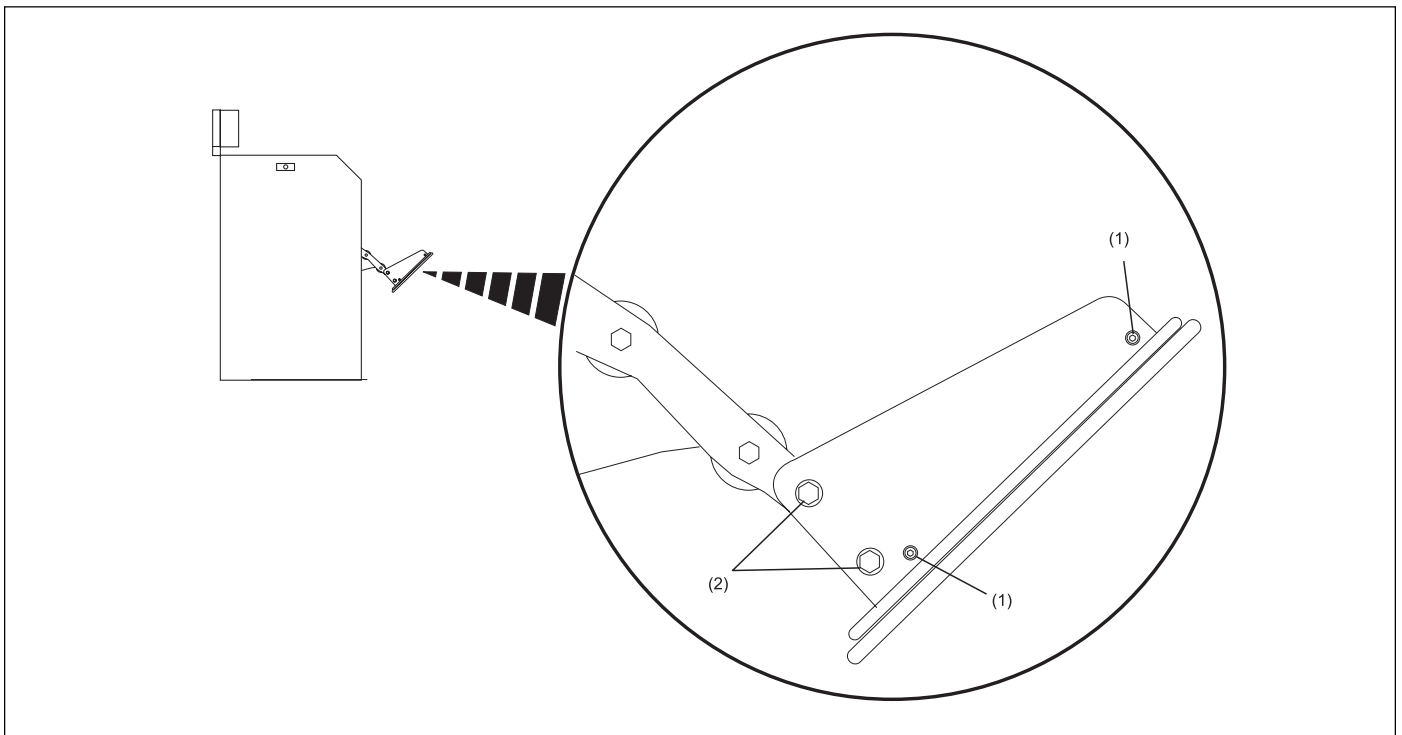

Figure 17. Adjust Ball Door
3. Remove the ball door by unscrewing the four (4) button head Allen screws.
5. To adjust the cradle, use a 7/16 inch wrench to loosen the four (4) bolts that hold the ball track to the cradle assembly and tilt the ball track so it is flush with the front panel. Tighten bolts.
6. Install ball door to the cradle assembly; close the ball door and cradle assembly, check to see if the seal is flush to the front panel all the way around the ball door. Refer to *Figure 17*.